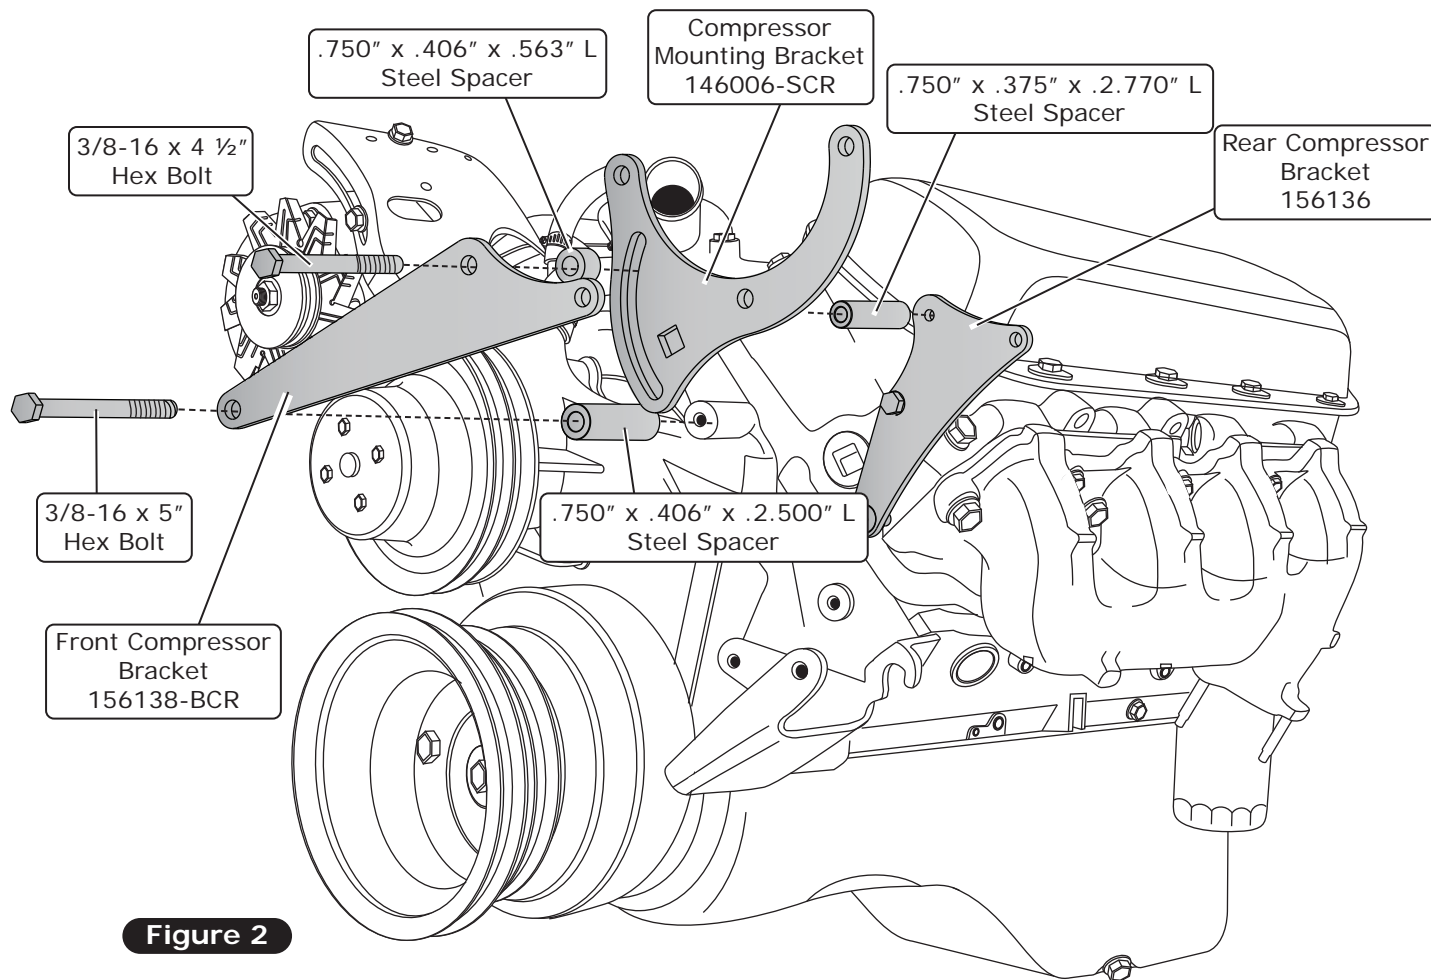

Figure 2
1. Install the front compressor bracket as shown in Figure 2, below. Place a 2.500" L spacer between the bracket and the water pump, and secure the bracket by installing a 3/8-16 x 5" hex bolt into the top mounting hole on the water pump.
2. Install the compressor mounting bracket as shown in Figure 2, below. Secure the bracket by installing a 3/8-16 x 4 1/2" hex bolt through the front compressor bracket, through the .563" L spacer, through the adjustment slot on the compressor mounting bracket, through the 2.770" L spacer, and into the rear compressor bracket.